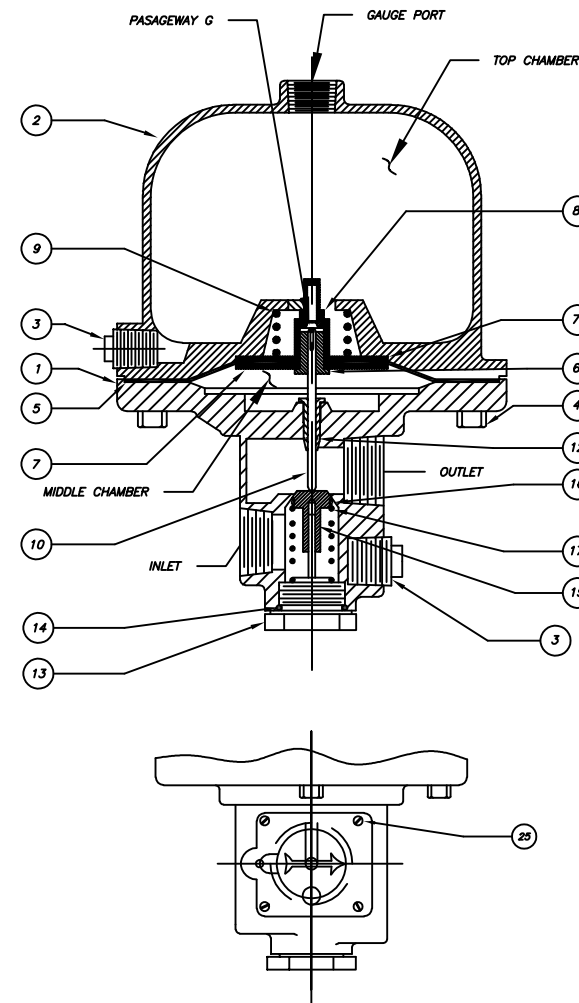

FIGURE 1
- a. Close valves A & B (see Fig. 1, Bulletin 322)
Refer to Fig. 1, page 5 of this specification or Fig. 2 of Bulletin 322.
Reassemble the accelerator using parts in the kit along with retained parts. Use Fig. 1 to assure correct parts location and orientation. Be sure to maintain cleanliness during assembly.